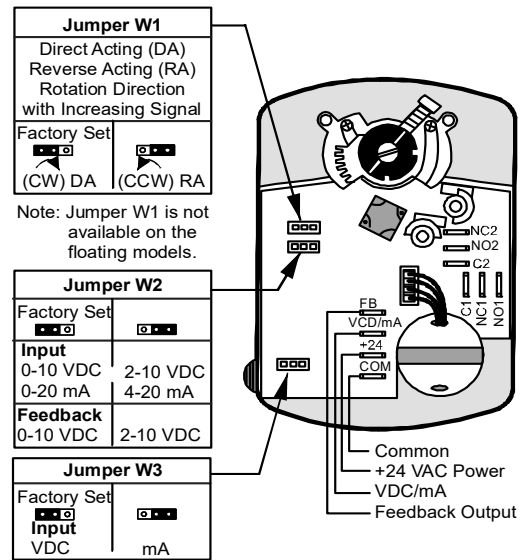

Figure 5: Calibrating GGx Models
The VA9109-GGx-4 proportional actuators are factory set for direct acting (DA) mode with Jumper W1 in the DA position. Remove Jumper W1 and place it in the reverse acting (RA) position (Figure 5).
The VDC/mA terminal is the control input signal. Jumper W3 must be in the VDC position for voltage input and in the mA position for current input. The FB terminal is the feedback output (Figure 5).